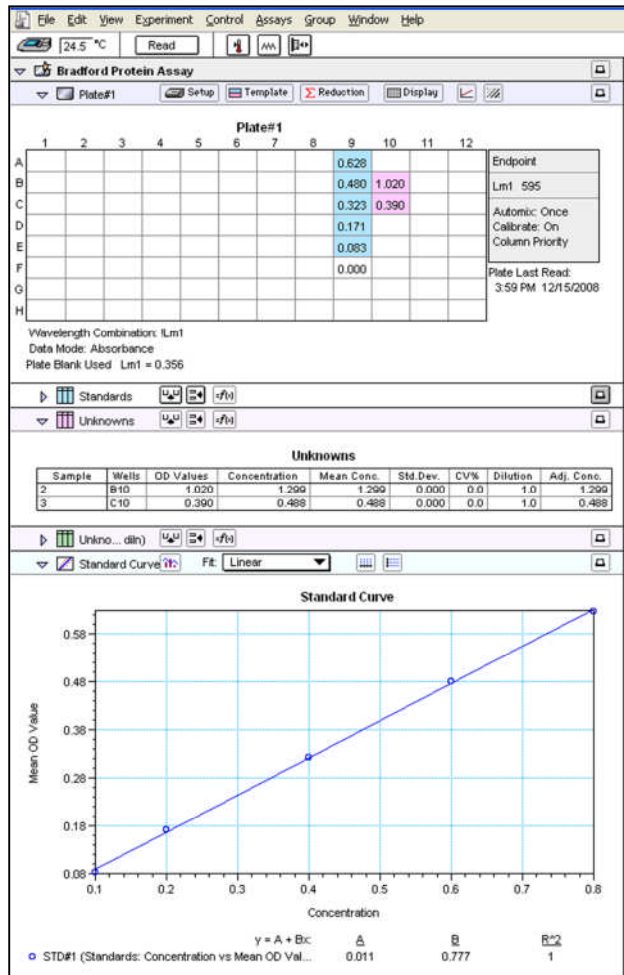

Figure 6. Print out from a Bradford plate-based protein assay.
7. A typical Bradford assay result from a commercial plate reader is illustrated in Figure 6 on the next page.
A_{280} reading (from scan in Figure 6) = 1.34